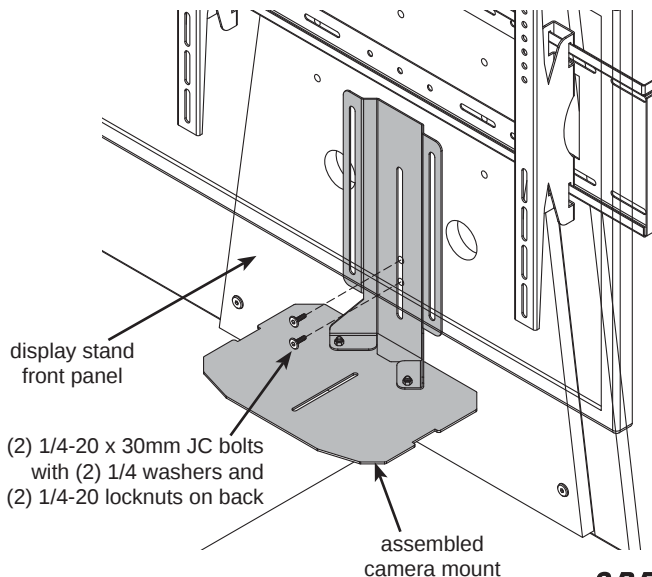

Figure 4
- E. Orient the assembled camera mount as shown with the display stand front panel. Using the center slot, align the shelf bracket with the two centered mounting holes and install (2) 1/4-20 x 30mm JC bolts with (2) 1/4-20 locknuts (not shown) and (2) 1/4 washers (not shown) on the back. **Figure 4.**